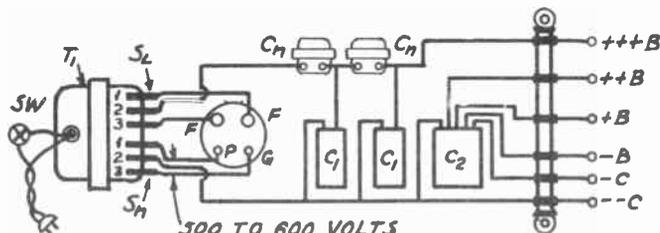

FIG. 6
**The B-C Eliminator.** This unit is extremely easy to make, and the parts are readily obtained. In fact, most of the units may be procured from an old A.C. receiver, and many servicemen in salvaging obsolete radio sets use the power pack parts for a B-C eliminator. However, any of the parts shown in Fig. 6 are obtainable from a radio parts jobber, and are laid out on the baseboard almost as shown in this sketch.
ference for that winding, by placing the probe of the ohmmeter across two of the terminals; when you get maximum ohmic reading the remaining terminal is the center tap, tap 2 in Fig. 6. To adjust this unit, first set the movable taps of the voltage divider equally apart. Connect the B-C eliminator to the receiver. At least two terminals, one of which is -B, should be used. Insert the 80 rectifier tube, turn on the switch and with a voltmeter across -B and some +B or -C, adjust the corresponding tap to the voltage you want. After each tap has been set, check the adjustments again. In moving one slide clamp you upset slightly the voltage value at the other terminals.